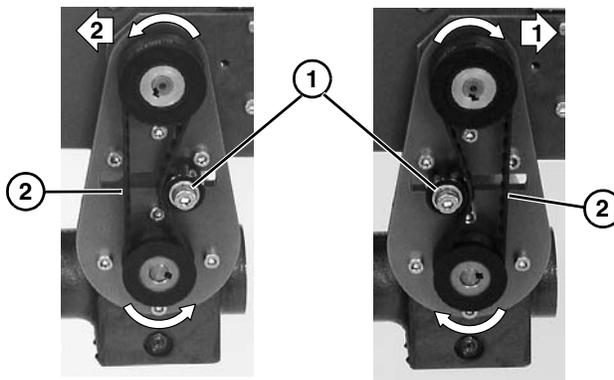

Figure 17
3. Depending on direction of conveyor belt travel (1 or 2 of **Figure 17**), position belt tensioner (**Figure 17, item 1**) as shown. Tension belt to obtain .125" (3 mm) deflection for 1.0 lb (456 grams) of force at belt mid-point (**Figure 17, item 2**). Tighten tensioner screw to 103 in-lb (12 Nm).